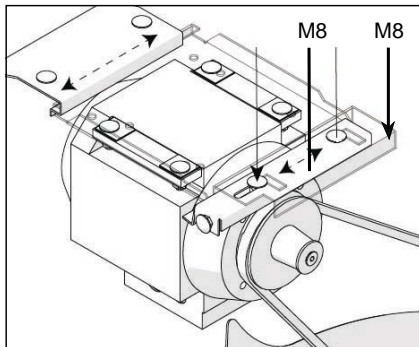

Fig.11
- Should it be necessary to take an extractor out of service or to keep it inactive for a long period of time (for example, in winter), and to avoid heat loss and/or air currents, make use of the **S&P** insulating covers (**Figure 11**).